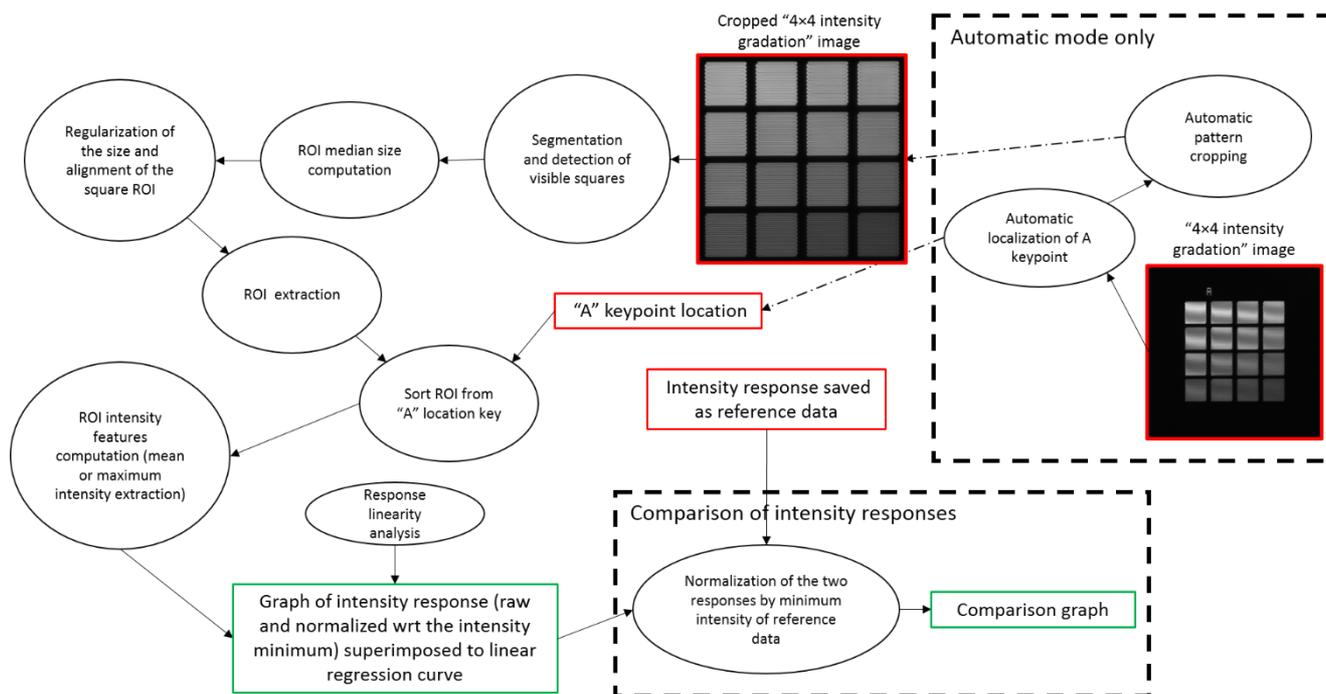
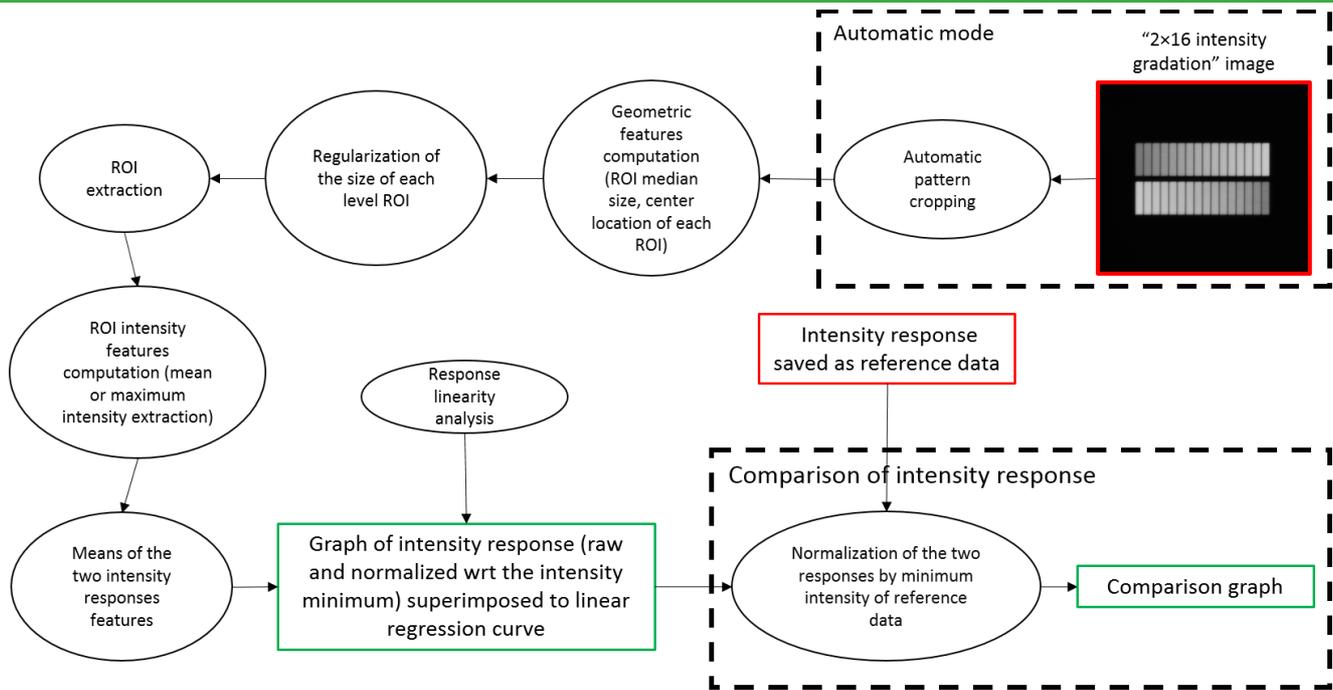

Figure 6: Schematic description of the different steps of the analysis algorithm.
Figure 7: Schematic description of the different steps of the analysis algorithm.
The diagrams below describe the algorithm that allows the extraction of the intensity response from one image of a “4×4 intensity gradation” (cf. Figure 6) and one image of the “2×16 intensity gradation”, respectively (cf. Figure 7).
2. From this “reference image”, perform an “intensity response” analysis. Save this response by clicking on the “Save reference response” button (orange frame in Figure 6). Note that the generated reference response will remain in the memory of Daybook Analysis until you save another reference response.
4. From this second image, perform an “intensity response” analysis. Compare this response to the reference one by clicking on the “Compare response” button (purple frame in Figure 6). Daybook Analysis displays the two responses (the reference one and the new extracted one) in the graph “Comparison of intensity responses”. The “Comparison parameters” table
displays the resulting metrics. Among them, the metric “ratio between the slopes” (red frame in Figure 6) can be used as a correction coefficient.